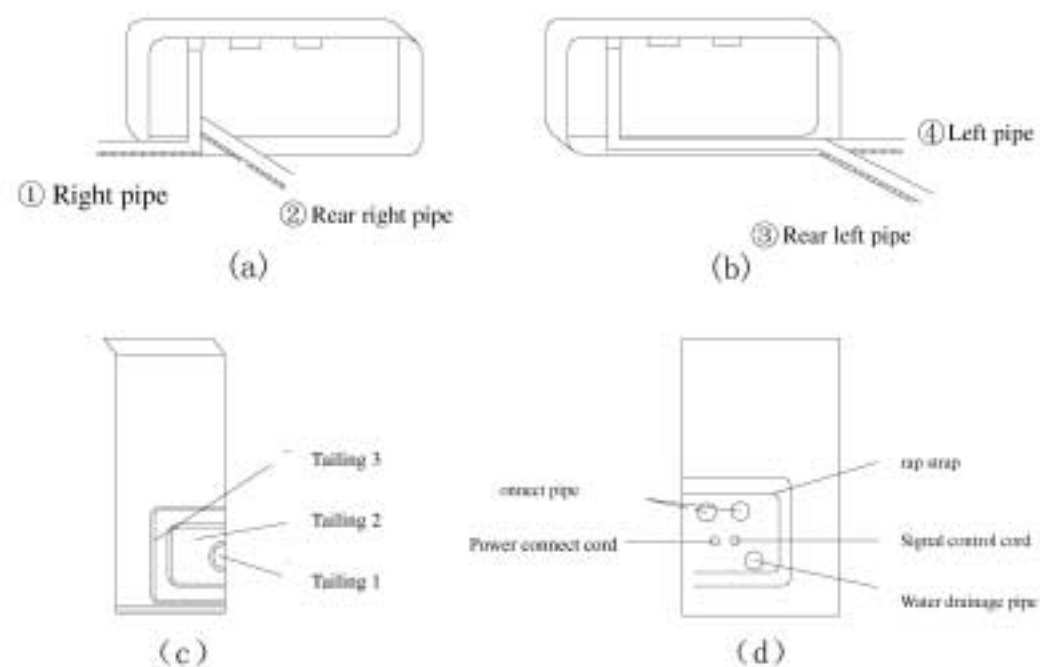

Fig.5
1. Refer Fig. 5 (a) and (b) for piping mode of indoor unit. When piping (wiring) at left or right side, cut off tailings from pipe left from chassis of host (as shown in fig. 5 (c)).
- ☆ The pad wire type ①、②、③ are recommended
2. Let the tubing and cord pass through the piping hole after tied up (refer to fig .5 (d)).